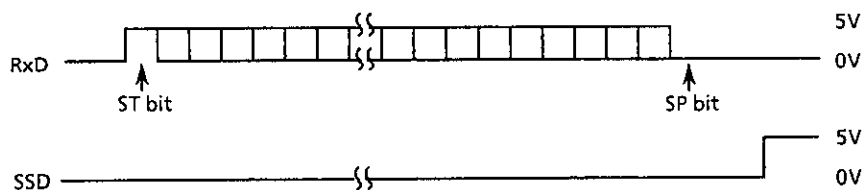

Figure E-3-4
- Yes Is the Rx D of Q3 as specified in Figure E-3-4?
② In receiving by serial interface, printing data is omitted or printing operation is not performed.
• Are Rx $\overline{\text{D}}$  and SSD of Q3 as specified in Figure E-3-4?